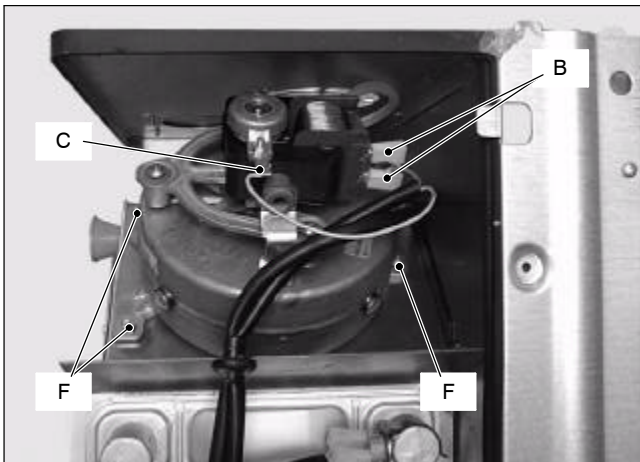

Fig. 67
- 2 Disconnect the connectors B (Fig. 67) and measure the electrical resistance of the motor that has to be about:
- 2 Disconnect the connectors *B* and the earth connection *C* (Fig. 67).
- 5 Remove the three screws *F* (Fig. 67) securing the Fan to the flue hood and remove the fan.